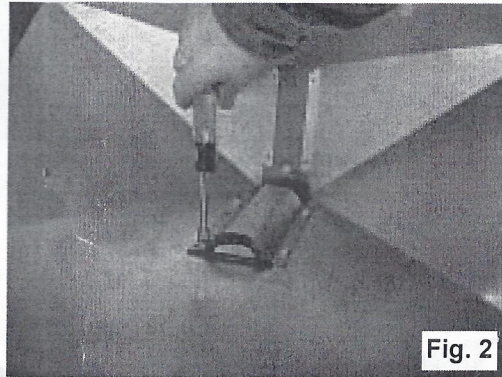

Fig. 2
2. Remove and discard auger cover (see Fig. 2).